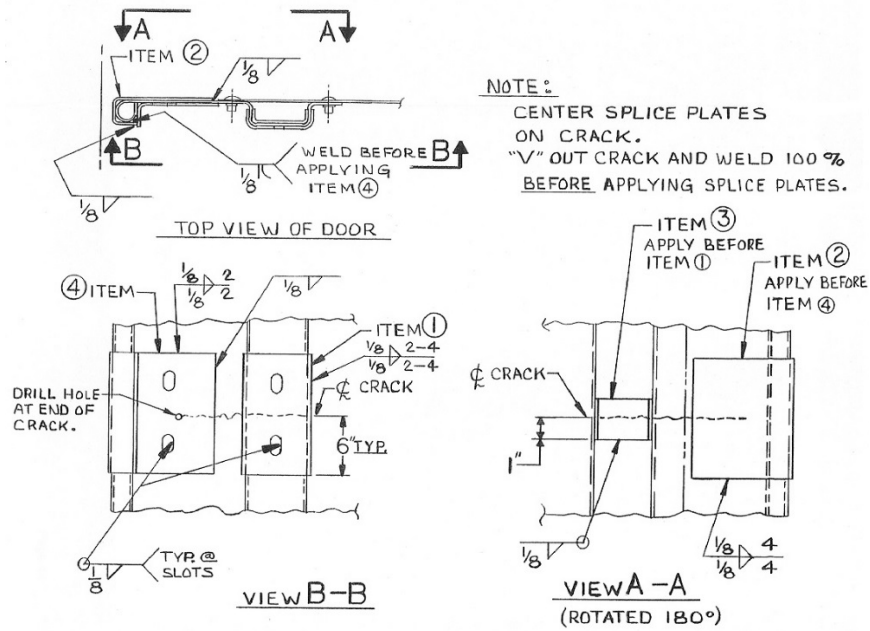

Figure 9.
5. Weld the backup bar as shown in Figure 9. Then reapply or replace the door skin that was removed.